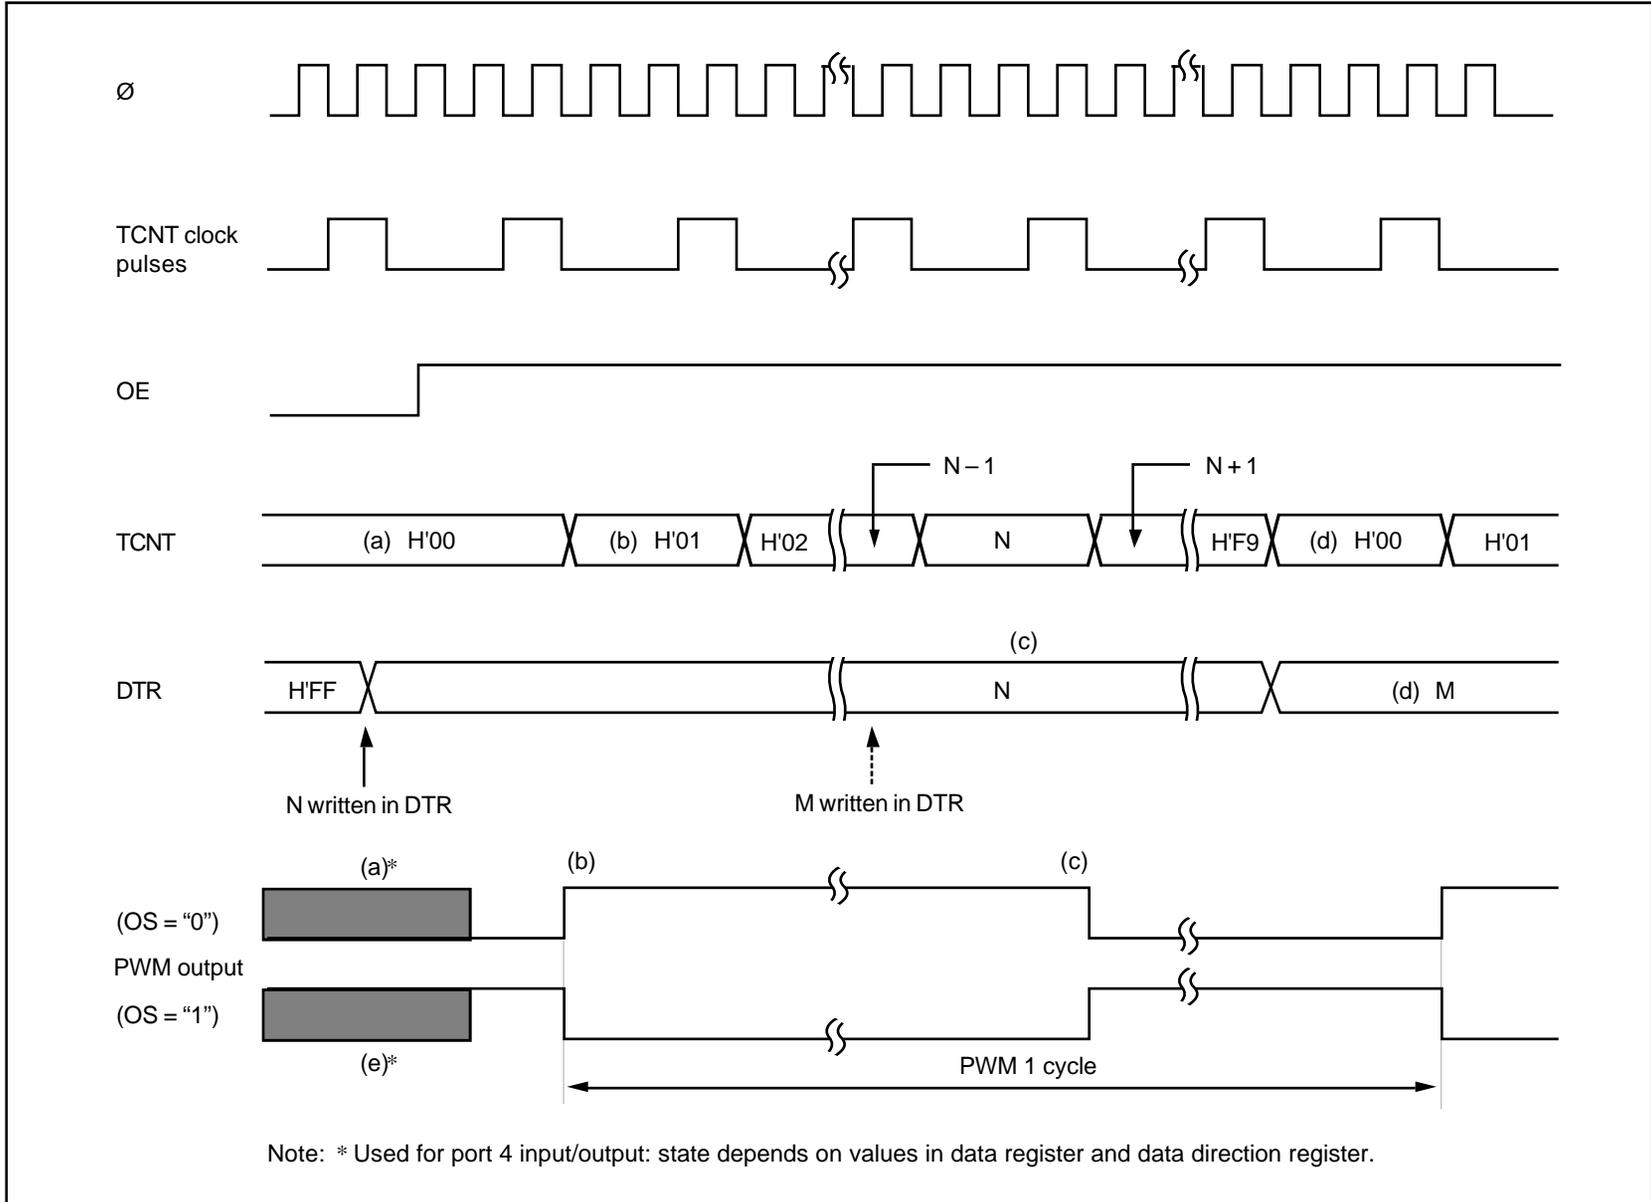

Figure 8-3. PWM Timing
Figure 8-3 is a timing chart of the PWM operation.
[1] **When (OE = “0”) – (a) in Figure 8-3:** The timer count is held at H'00 and PWM output is inhibited. [Pin 46 (for PW0) or pin 47 (for PW1) is used for port 4 input/output, and its state depends on the corresponding port 4 data register and data direction register.] Any value (such as N in figure 8-3) written in the DTR becomes valid immediately.
- i) The timer counter begins incrementing. The PWM output goes High when TCNT changes from H'00 to H'01, unless DTR = H'00. [(b) in figure 8-3]
- ii) When the count passes the DTR value, the PWM output goes Low. [(c) in figure 8-3]
- iii) If the DTR value is changed (by writing the data “M” in figure 8-3), the new value becomes valid after the timer count changes from H'F9 to H'00. [(d) in figure 8-3]
(2) **Negative Logic (OS = “1”)** – (e) in Figure 8-3: The operation is the same except that High and Low are reversed in the PWM output. [(e) in figure 8-3]